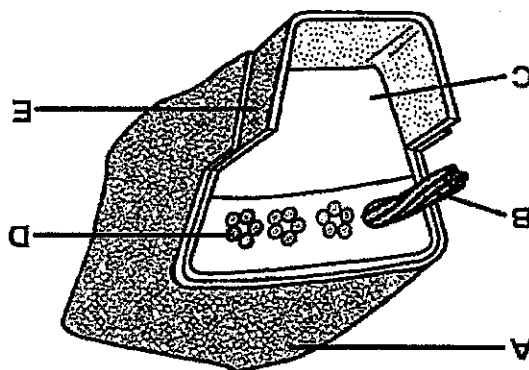

FIGURE 1
1.2 Refer to FIGURE 1 below of the cross sectional view of a V-belt: